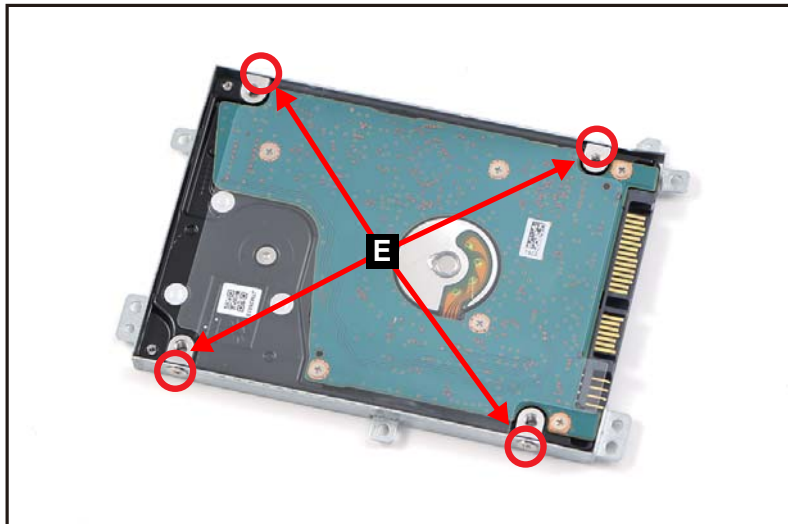

Figure 1-29. HDD Module Removal
5. Remove four (4) screws (E) from the HDD bracket (Figure 1-29).